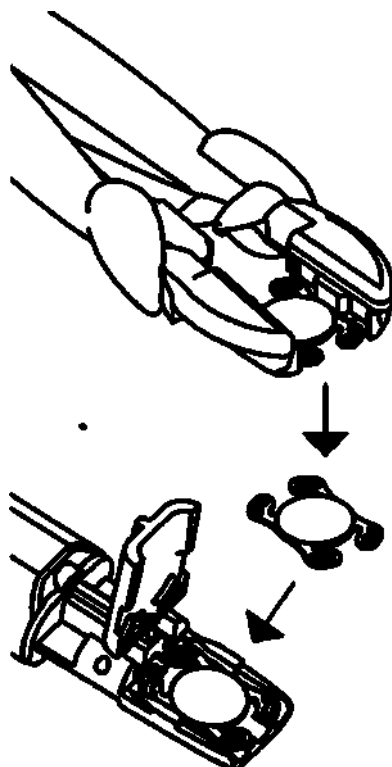
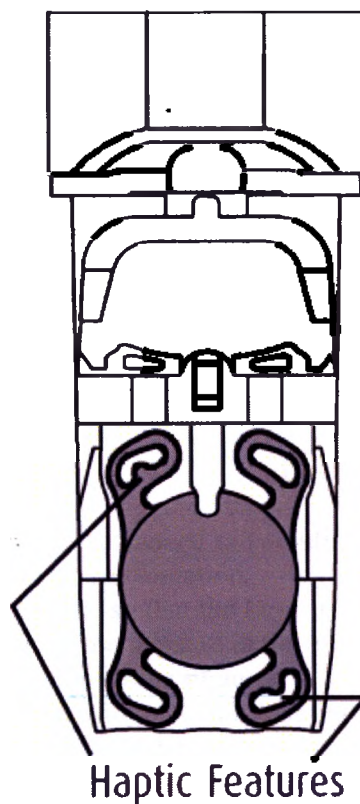

Fig. 6a.
Fig. 6b.
3. Select the syringe-shaped tube and plunger. Pull the plunger until the tip of the plunger is just visible in the lens loading deck. Place a drop of viscoelastic directly in the center of the loading deck. Open the vial and remove the lens holder. Position the lens holder with its jaws facing down (**Fig. 6a**). With a blunt, non-toothed forceps, remove the lens from the lens holder by pushing the lens down. Transfer the lens to the recessed area in the injector loading deck (**Fig. 6a**), ensuring that the lens is not flipped during the transfer. The lens is loaded in correct orientation if its haptic features are as shown in **Fig. 6b**.